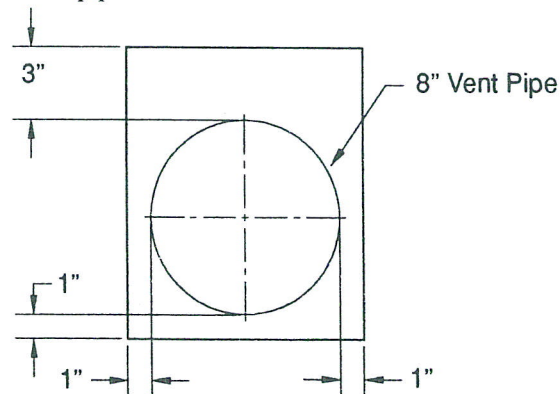

Figure 5: Combustible Clearance for Horizontal Venting
**MINIMUM VENT CLEARANCES:** The minimum clearances to combustibles for vent pipe require 3 inches at the top and 1 inch at the sides and bottom for horizontal sections of the vent system (see Figure 5). For vertical sections of vent pipe a 1 inch minimum clearance all around the pipe must be maintained.